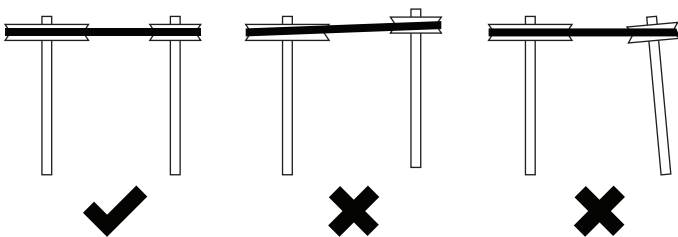

Figure 2 - Pulley Alignment
7. With the motor platform in its highest position install the V belt within the sheave grooves. Adjust the sheave on the blower shaft to ensure proper alignment (see Figure 2) and secure in place. A straight edge across the face of the driven pulley should be parallel to the belt once proper alignment has been achieved.